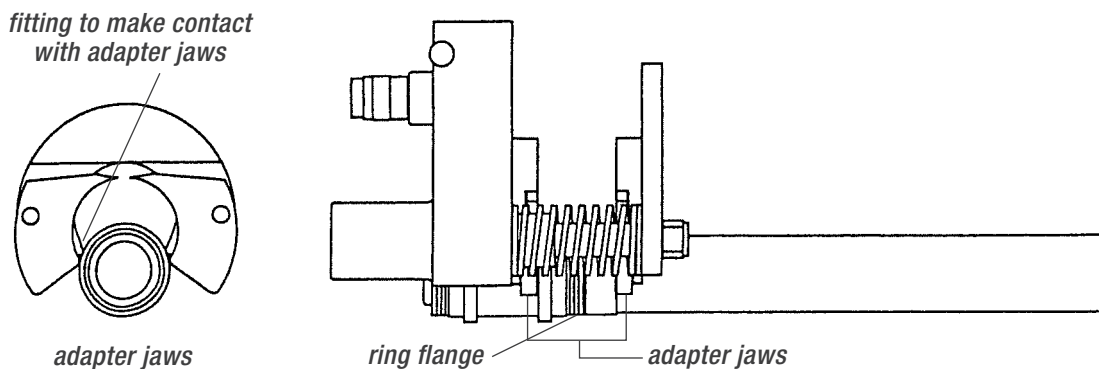

Figure 3
e. The tool is lowered down over fittings, as shown in *Figure 3*. Note the location of the rear, stationary adapter jaws over the shoulder of the fitting, and the front moveable set of adapter jaws in the back of the ring flange.